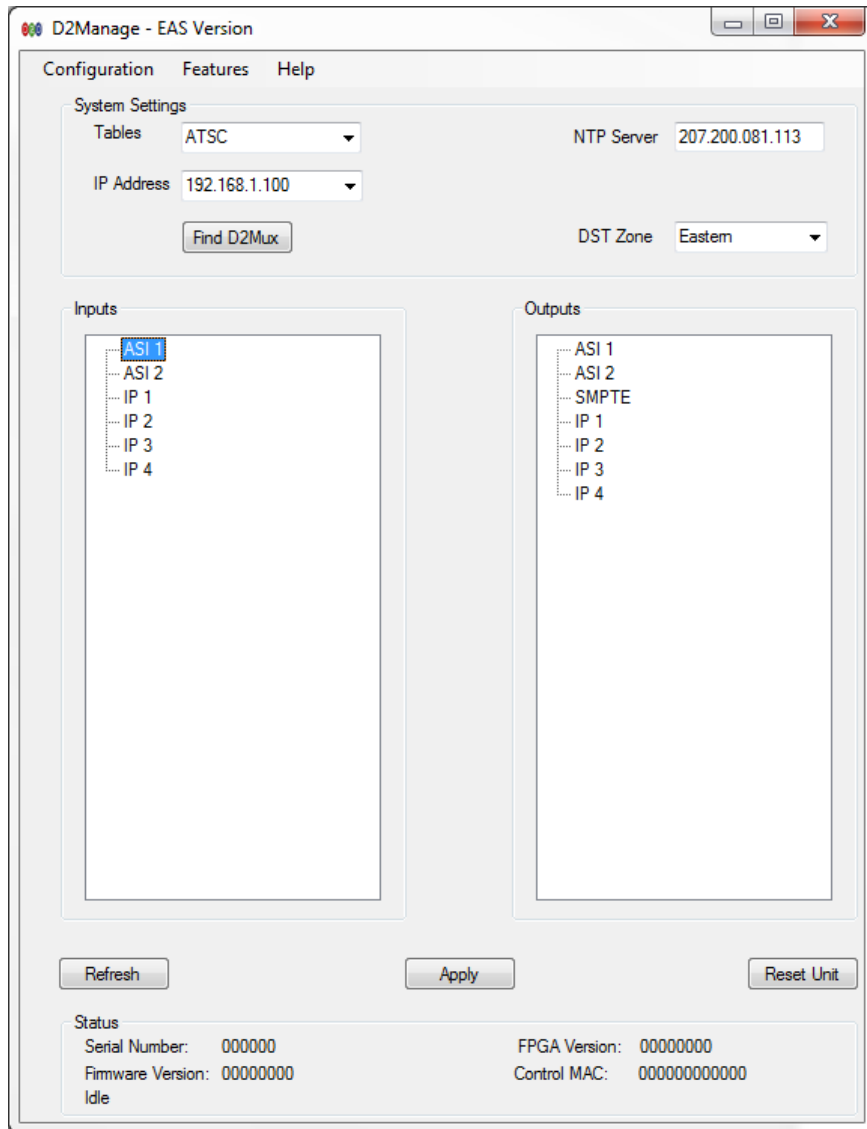

Figure 1
1. D2Manage will automatically query for units on startup. If a unit is connected after startup press Find D2Mux (see figure 1) to query unit. This will locate any D2Mux units on the network. The control ethernet comes configured for IP address 192.168.1.100. Use the IP Setup application provided on the installation CD to change the static IP address. The unit can be configured for DHCP by setting the IP address 0.0.0.0. **WARNING:** IP Setup, and D2Manage use the same port for discovering D2Mux units so they can not be open at the same time.
System settings are located at top of main page (see figure 1).